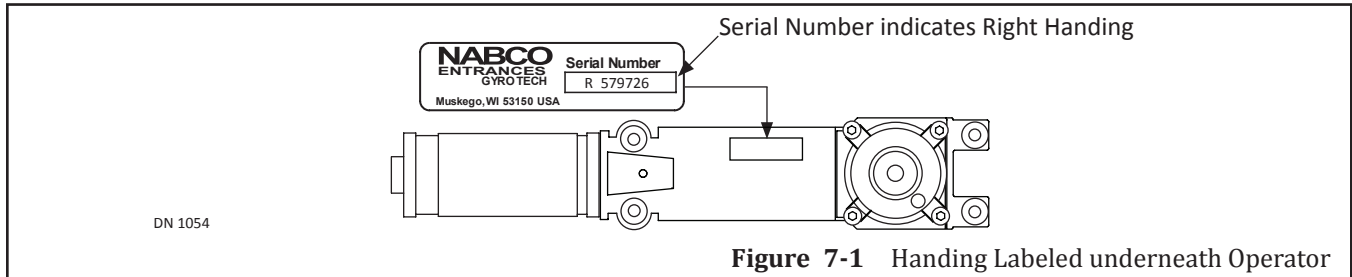

Figure 7-1 Handing Labeled underneath Operator
- ▶ Locate the Serial Number underneath the Operator. Please see Figure 7-1.
- The Letter (L) or (R) located in front of the Serial Number indicates the Handing.